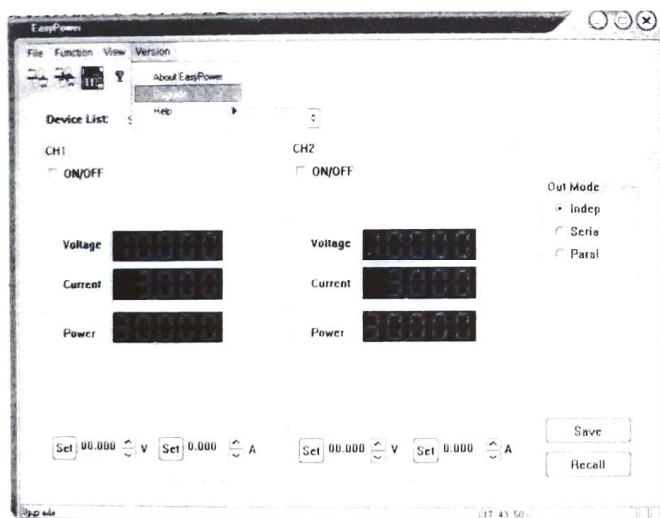

Figure 1
2. Click the Upgrade option under the Version menu to enter the USB firmware upgrade interface. As shown in figure 1: